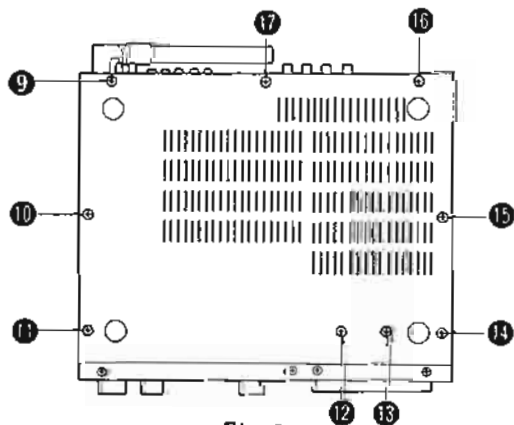

Fig. 3
2. Remove the 9 setscrews (Fig. 3 : ⑨ ~ ⑰) of the bottom board.